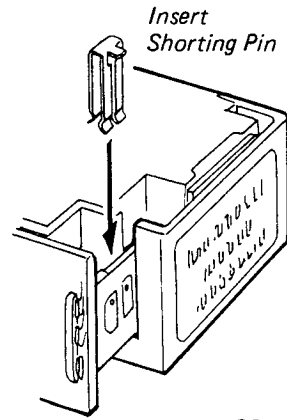

Figure 20
4. Insert shorting pin, which is one of repair parts, into pickup to be removed. (Figure 20)